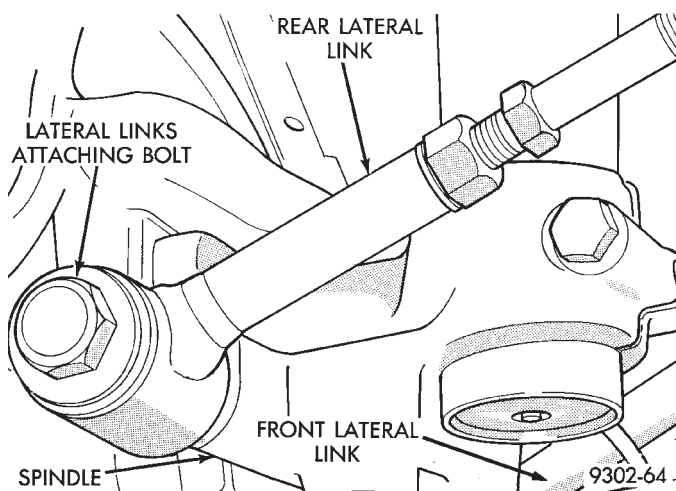

Fig. 8 Lateral Links
(6) Remove the lateral links (Fig. 8) from the spindle.
(3) Install the lateral links on the spindle (Fig. 8). Tighten the lateral links to spindle attaching bolt to a torque of 140 N·m (105 ft. lbs.).